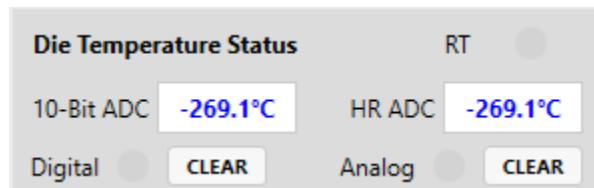

Figure 42: Die Temperature Monitor
10. Monitor the die temperature (see Figure 42).